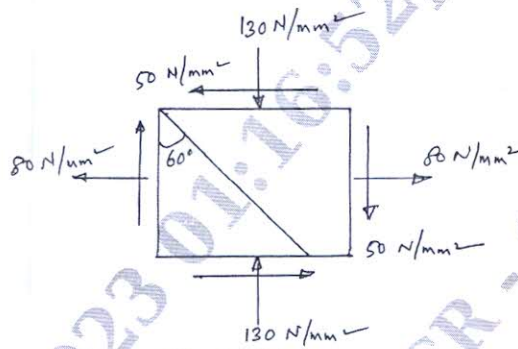

Fig.Q4(a)
4. a. A point in a machine is subjected to the stresses as shown in Fig.Q4(a). Draw the Mohr's circle and determine: